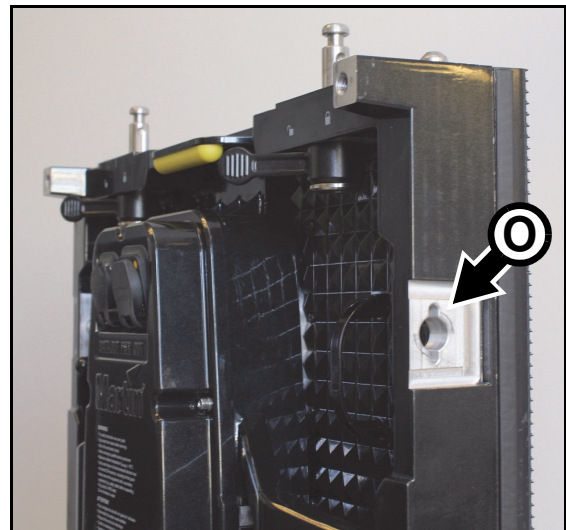

Figure 15: Hole for side-to-side locking bar
1. See Figure 15. Note the position of the hole **O** in the side of the panel that acts as a receptacle and accepts the side-to-side locking bar.